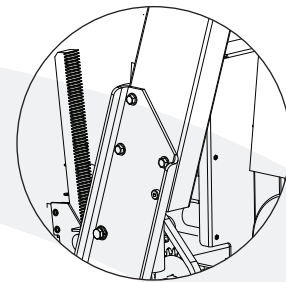

Figure 1a
2. Align the holes in the base of the uprights with the holes in the upright brackets; there are three holes in the bracket (Figure 1a). Fasten the uprights into place with the hardware supplied with the treadmill: 5/16" -18 x 7/23" hex bolt, 5/16" lock washer, and 5/16" flat washer.